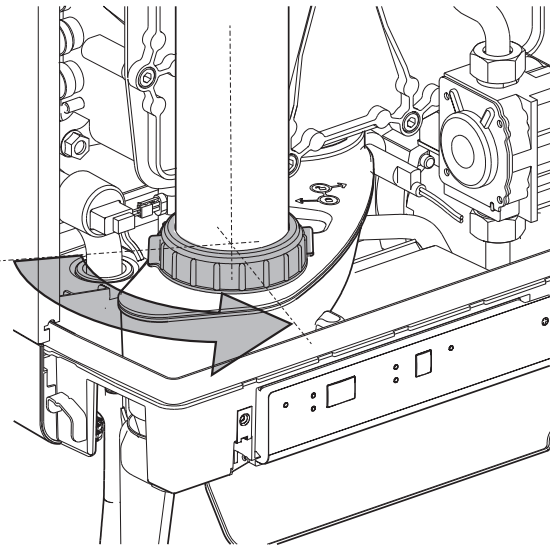

Fig. 19: Loosening of Flue Pipe Retaining Ring
1. Loosen the flue pipe retaining ring as shown in Fig. 19 on page 41.